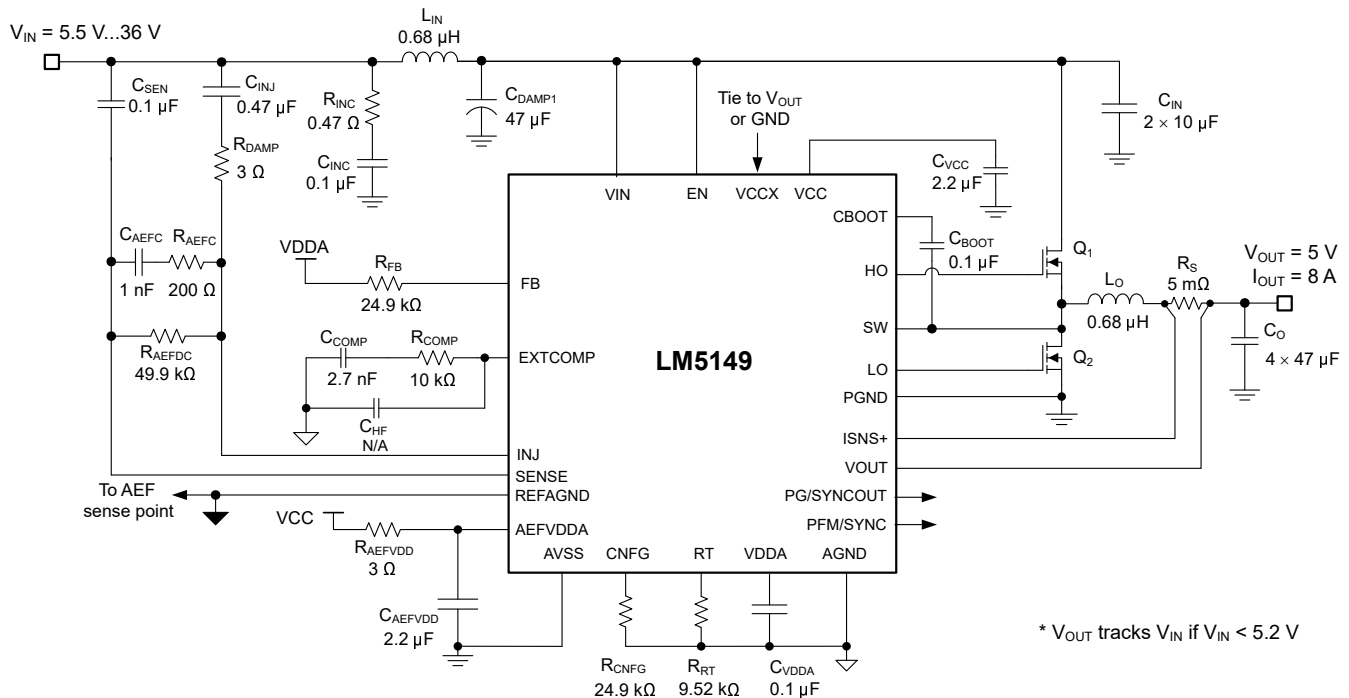

**Figure 9-4. Error Amplifier and Compensation Network**
Figure 9-4 shows a type-II compensator using a transconductance error amplifier (EA). The dominant pole of the EA open-loop gain is set by the EA output resistance,  $R_{\text{O-EA}}$ , and effective bandwidth-limiting capacitance,  $C_{\text{BW}}$ , as shown by Equation 29.